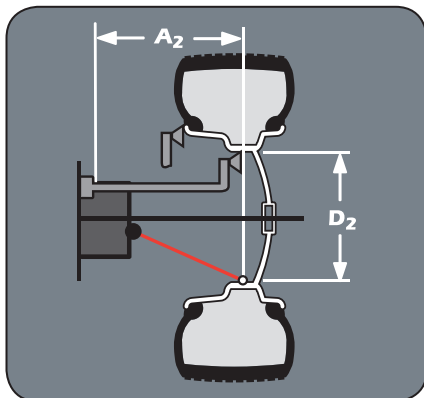

Figure 12 - A2 and D2 Tire Dimensions
- For Clip 1 data entry, move the arm from home position and place the offset arm up against the wheel flange in either position 1 or 2, as shown in figure 12.